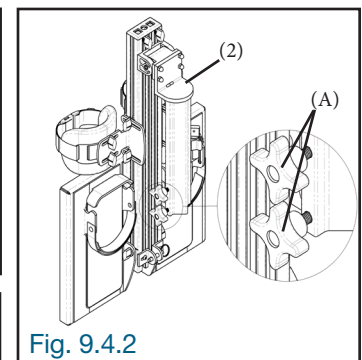

Fig. 9.4.2
9.4.2 Loosen the knobs (A) on the frame (2) slightly (Fig. 9.4.2).